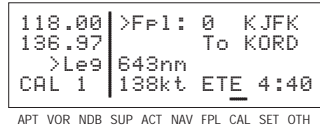

Figure 4-51
1. From the CAL 1 page (figure 4-51), turn on the cursor (CRSR). It will appear over a cyclic field that either displays **Wpt** (waypoint to waypoint) or **Fpl** (flight plan).